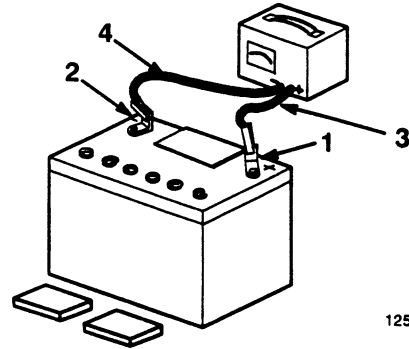

Figure 10
3. Leave the filler caps off and connect a 3-4 amp battery charger to the battery posts (Fig. 10). Charge the battery at a rate of 4 amperes or less for 4 hours (12 volts).
4. When the battery is fully charged, unplug the charger from electrical outlet, then disconnect the charger leads from the battery posts (Fig. 10).